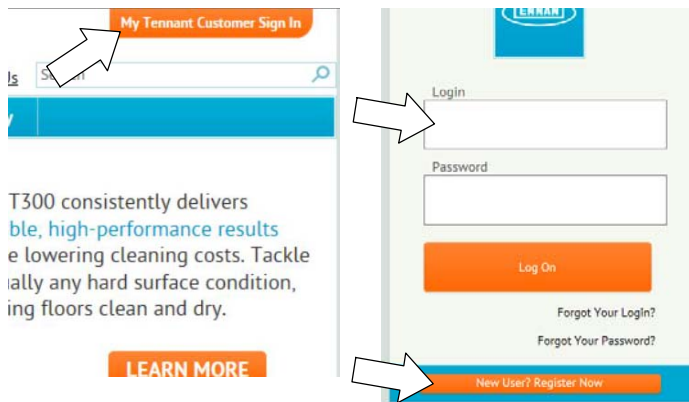

Fig. 39
1. Log in to the “My Tennant” website or register as a new user (Figure 39).